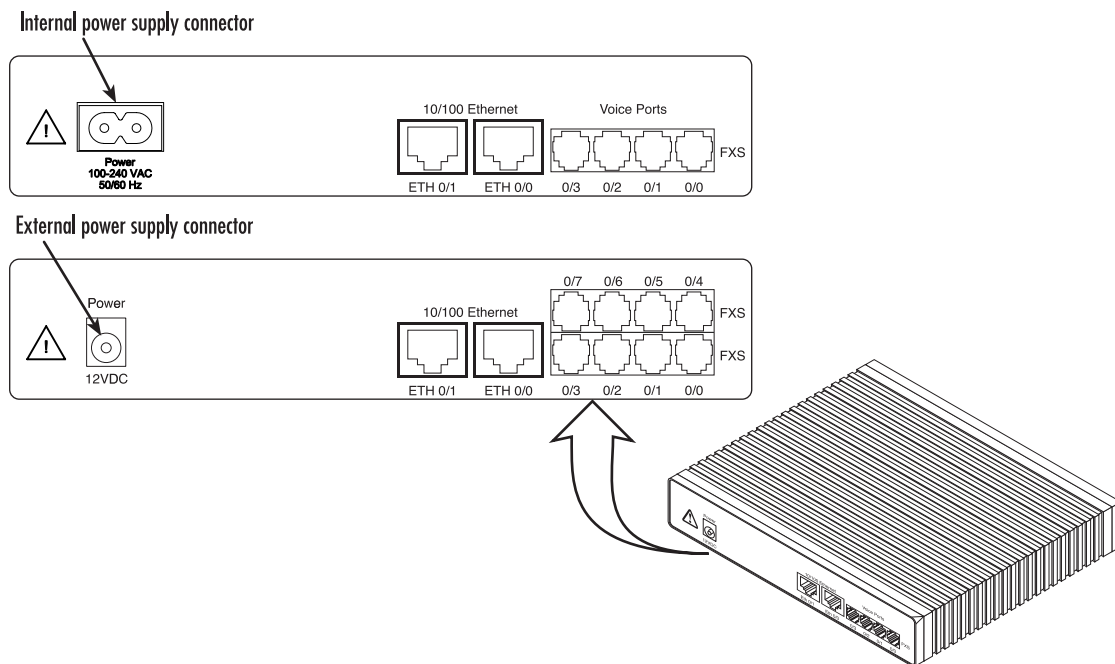

Figure 3. SmartNode 4520 Series power input connectors
- *UI* stands for integrated universal input power supply (see figure 3)
- *EUI* stands for external universal input power supply (see figure 3)